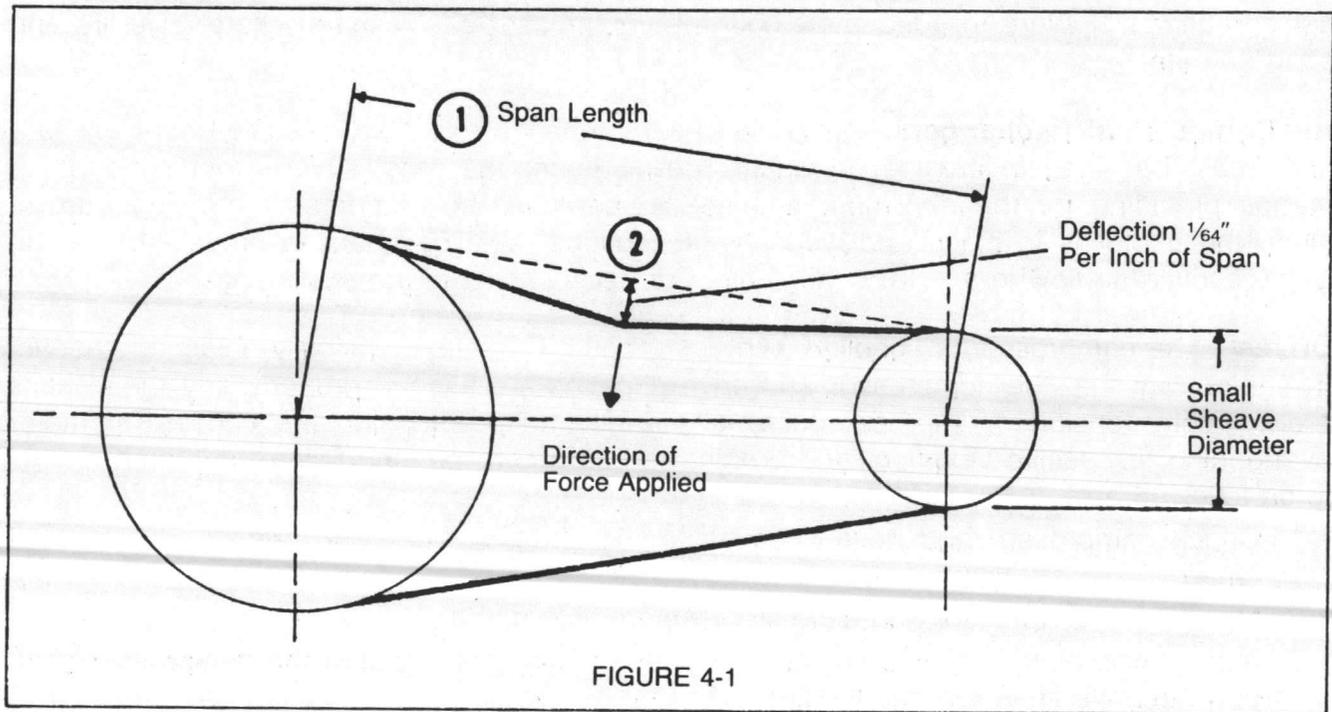

FIGURE 4-1
- STEP 1. A. Measure the span length (1) of your drive (see figure 4-1).